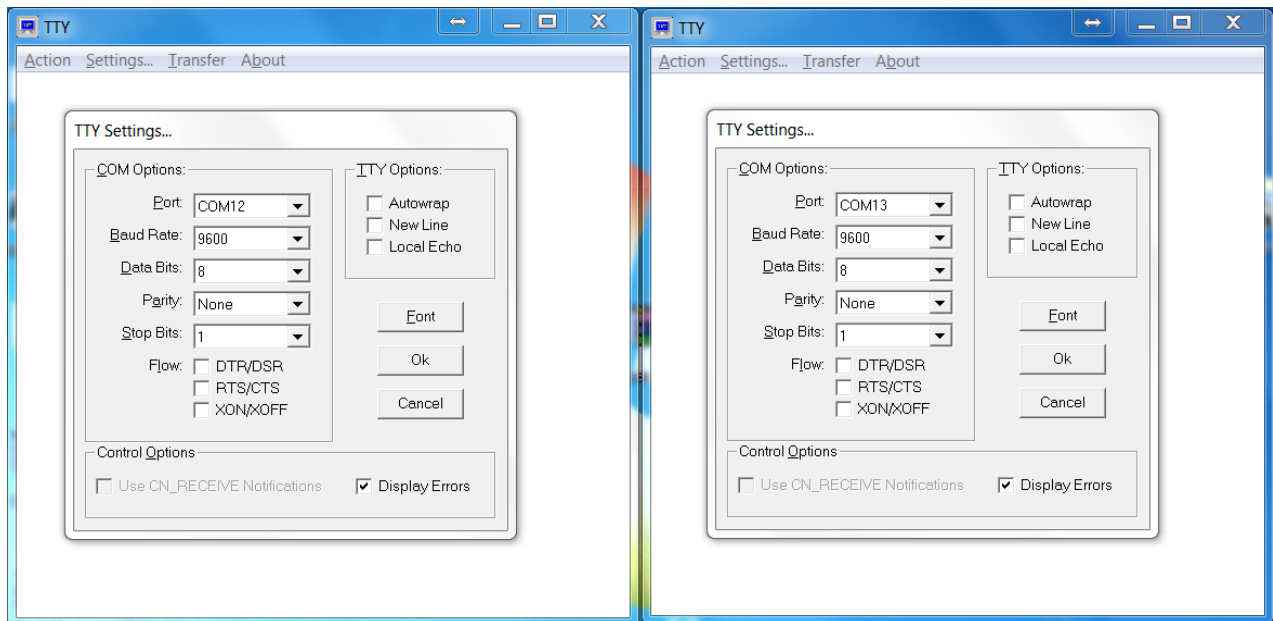

Figure 3. Using TTY do com port setting for loop back test
4. Open two HyperTerminal (ex. TTY), and setting those two port configuration as Figure 3.: